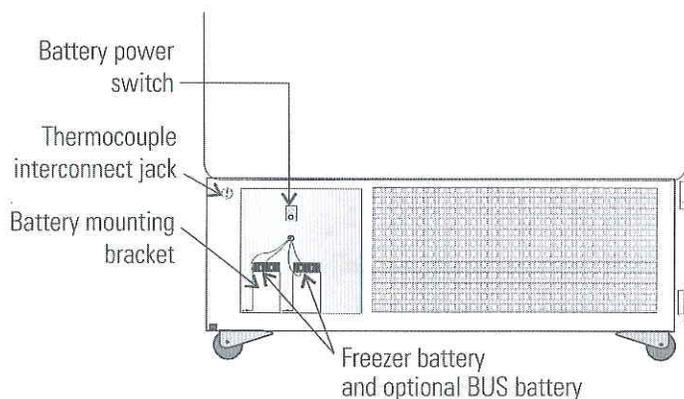

Figure 4-6. Battery Power Switch
3. Turn off the battery switch (O). See Figure 4-6.